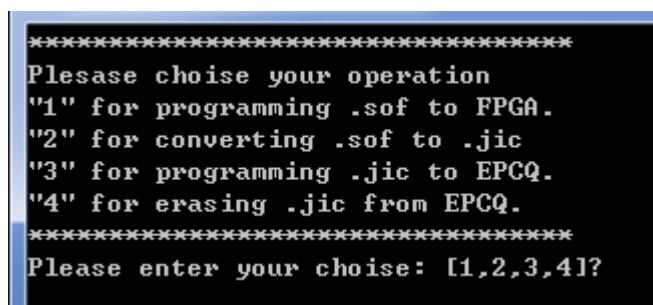

Figure 5-1 Command line of the batch file to program the FPGA and EPCQ device
- For the ease of execution, a demo_batch folder is provided in the project. It is able to not only load the bit stream into the FPGA in command line, but also program or erase .jic file to the EPCQ by executing the test.bat file shown in **Figure 5-1**.